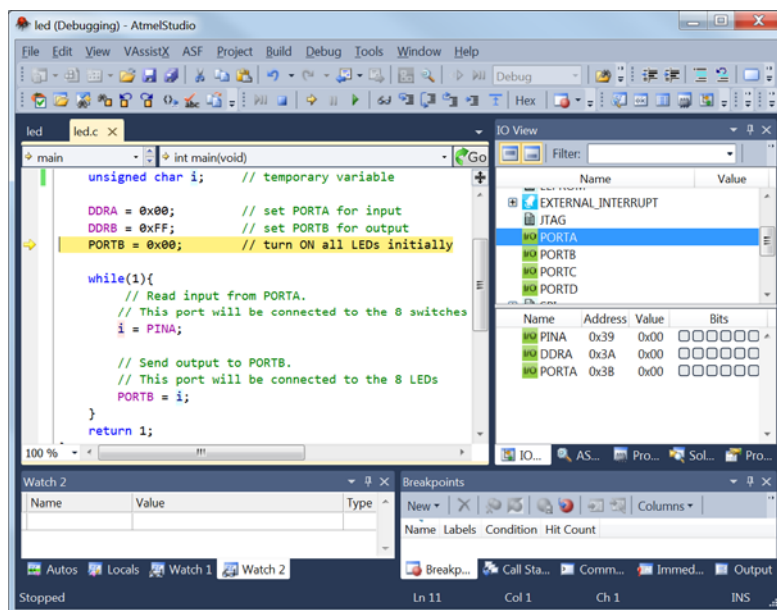

Figure 8: Stepping through a C program in the debugging mode.
- A yellow arrow will appear in the code window (Figure 8); it indicates the C instruction to be executed next.